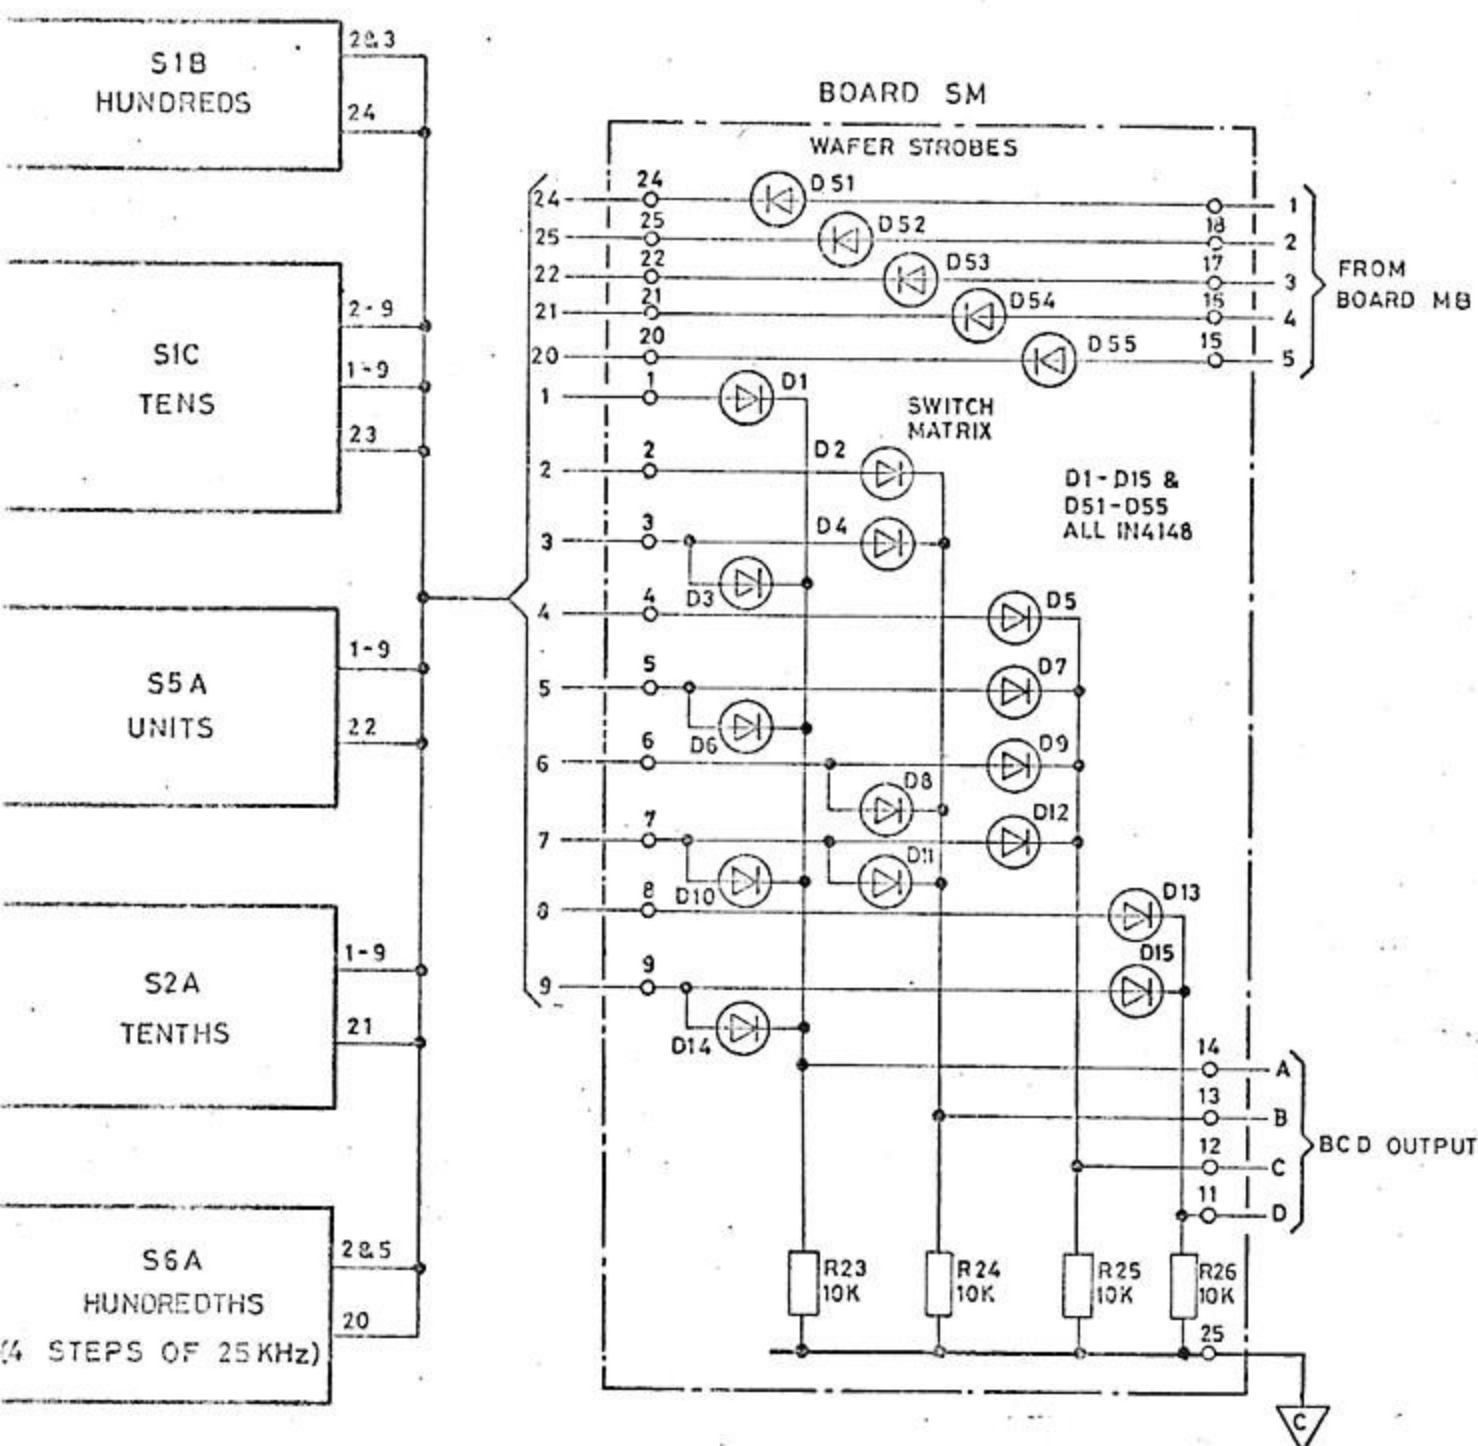

Fig.5 Frequency selection
8. The sequential I outputs from TR1 to TR5 are also routed via wafer strobe diodes D51 to D55 (Board SM), frequency selection switches, and the switch matrix (D1 to D15) to resistor network R23 to R26 (Fig.5). The permutation of voltage drops across the resistor network forms logic inputs (BCD Code) to latch/decoder/driver IC16 (Board DB) and latches IC6 to IC10 (Board OB).